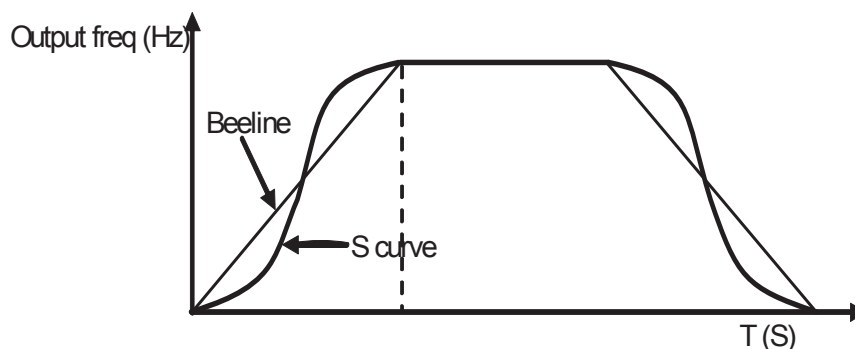

Fig 6-4 Acc & dec curve
**1st of LED: Inverter acc/ dec curve type set shown as fig 6-4.**